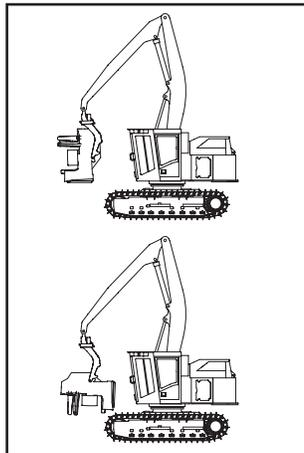

Figure 1. Harvester head tucked in close
1. When nearing the boom positions shown in Figure 1: